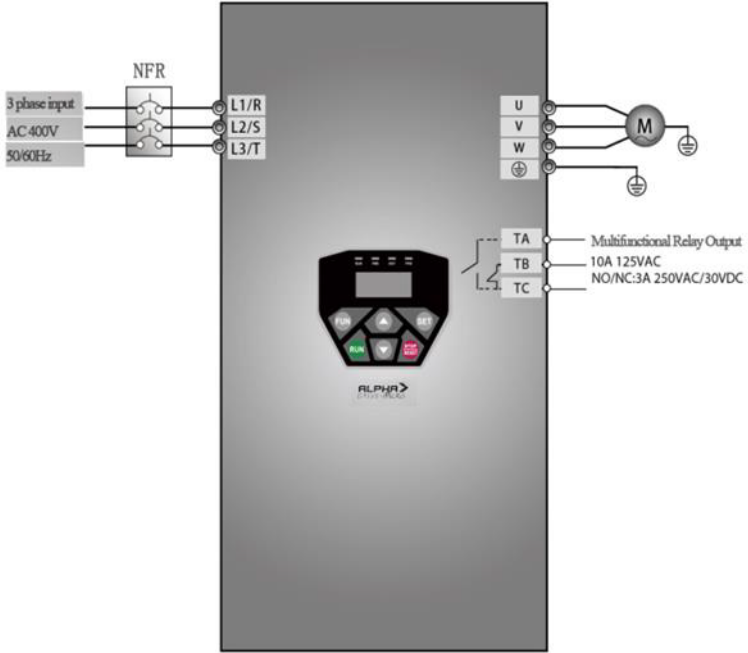

Figure 5-1 Wiring Diagram
- (1) Connect the wires in accordance with Figure 5-1. After having checked the wiring successfully, switch power on to the inverter.
- (2) Press the "Fun" key, to enter the programming menu.
- (3) Set functional parameters of the inverter:
- (1) Connect the wires in accordance with Figure 5-1. After having checked the wiring successfully, switch the power on to the inverter;